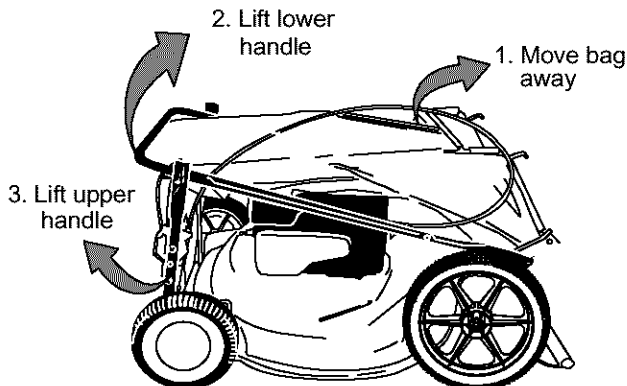
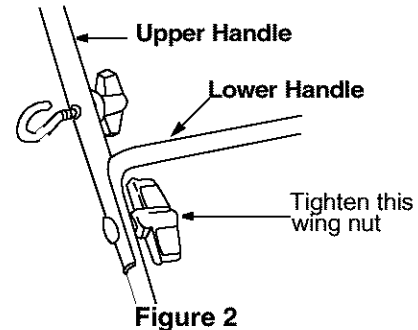

Figure 1
Figure 2
- Remove grass bag from the unit and set it out of the way. See Figure 1 (step 1).
- Raise the lower handle in the direction shown in Figure 1 (step 2) till it snaps into place.
- Raise the upper handle in the direction shown in Figure 1 (step 3). Tighten the wing nuts which are already on the handle. See Figure 2 .